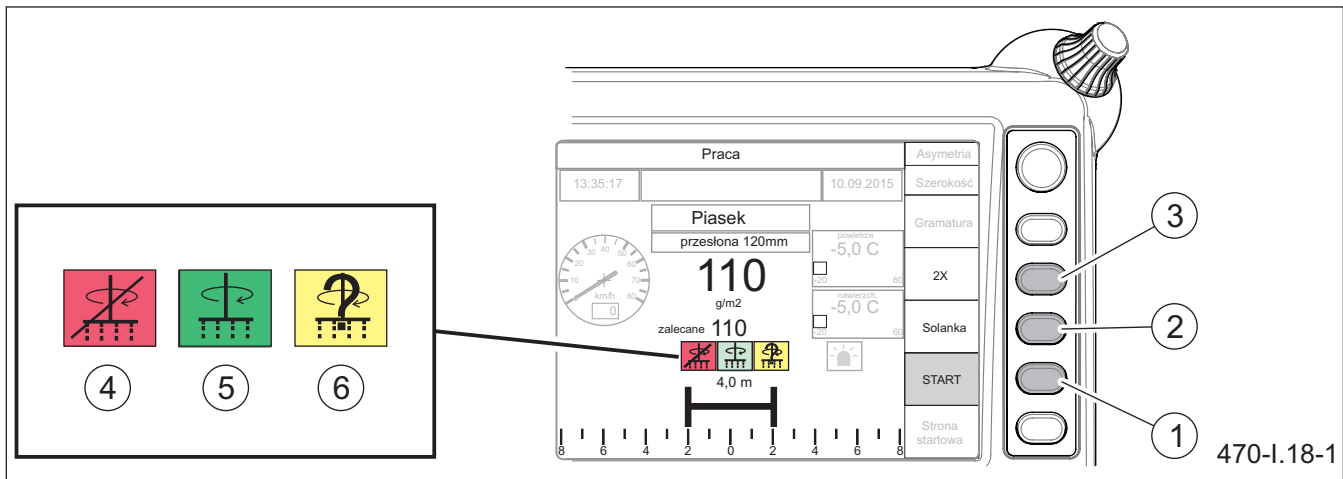

Figure 5.19 Start spreading
- Move to field (B) by means of push-button (1) „Selection” and select the type of material to be spread. By means of „Change” push-button, select the type of material to be spread that is currently in the tank.
- Press the button (3), turn on warning lamp (6) at the rear of the machine and lamp (7) near the spreading disc.
- On control panel “Operation” page (Figure 5.19), press button (1) to activate spreading; the “Start” function will be highlighted.
control panel (Figure 5.19). Brine spraying is switched on and off by means of push-button (2) “Brine” (not active for sand). Push button (3), marked “2X” to temporarily double the spreading material dose.